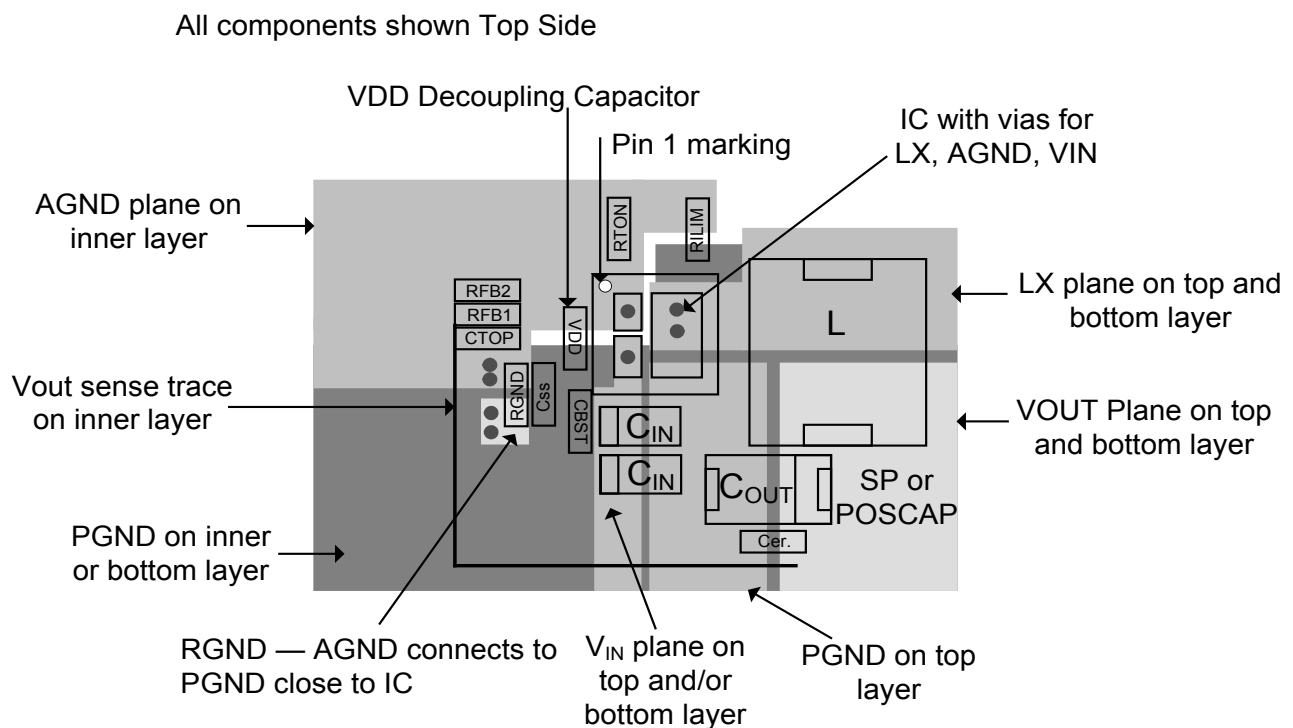

Figure 17 — PCB Layout
The optimum layout for the SC401B is shown in Figure 17. This layout shows an integrated FET buck regulator with a maximum current of 15A. The total PCB area is approximately 25 x 29 mm with single side components.
- Figure 17 shows the placement of input/output capacitors and inductor. This placement shows the smallest current loops between the input/output capacitors, the SC401B and the inductor to reduce the IR drop across the copper.